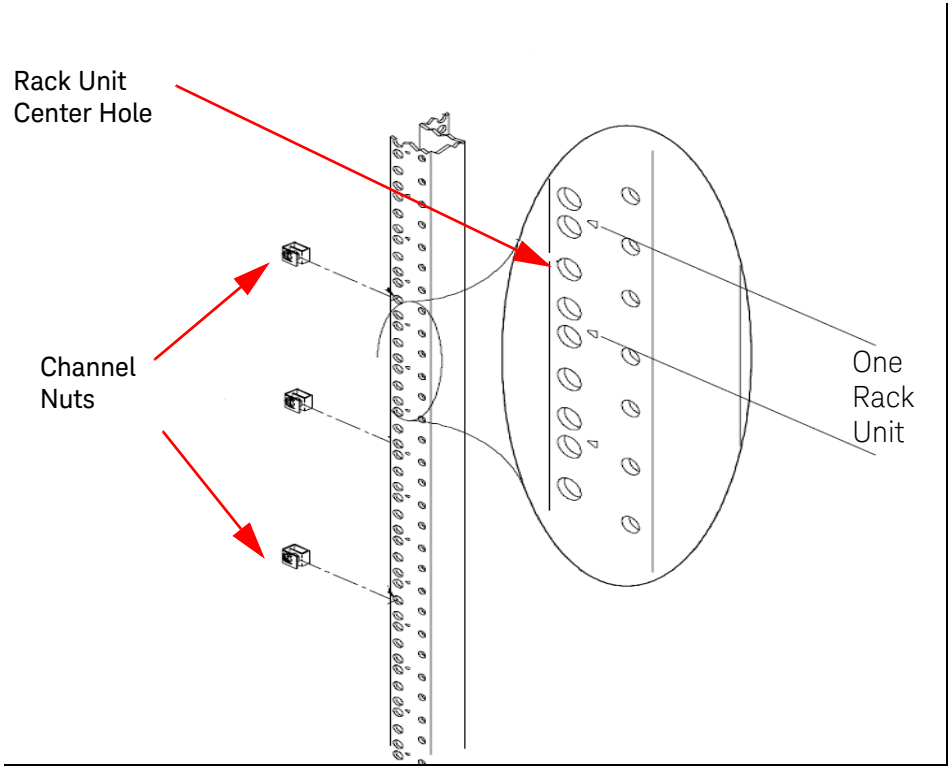

Figure 3 . Center Holes of EIA Rack, Attaching Channel Nuts
- 3 Using the rack mount flanges as templates, position the flanges on the rack's vertical columns where the chassis is to be mounted. Align the adapter holes over the "center" holes of the EIA rack units. Slide channel nuts over the rack holes to be used by the rack mount flanges. See Figure 3.